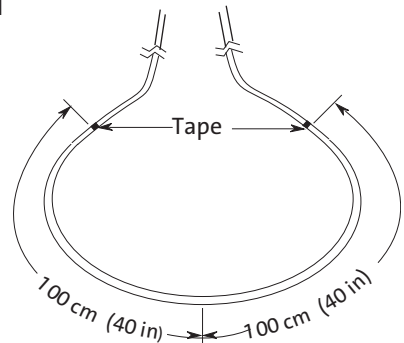

Figure 3
4.2 Determine the center of the slack loop of the cable. Measure and mark a distance of 100 cm (40 in) on both sides of this midpoint. Place a wrap of tape at each of these points to mark a total of 200 cm (80 in) of cable to be accessed (Figure 3).